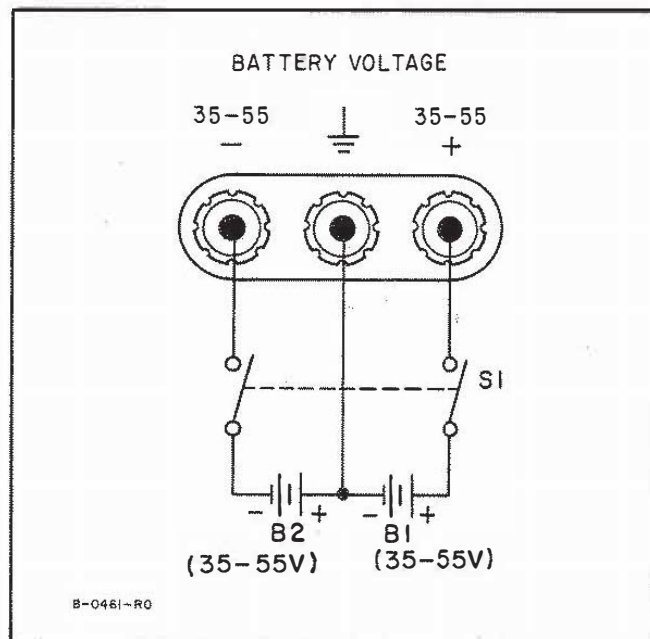

Figure 3-2. External Battery Connection
- b. If batteries are used, connect two 35 to 55 volt batteries as shown in Figure 3-2. The line ON switch is not in the circuit when batteries are used, therefore an external DPST switch should be used to provide a means for disconnecting the batteries when the instrument is not in use.